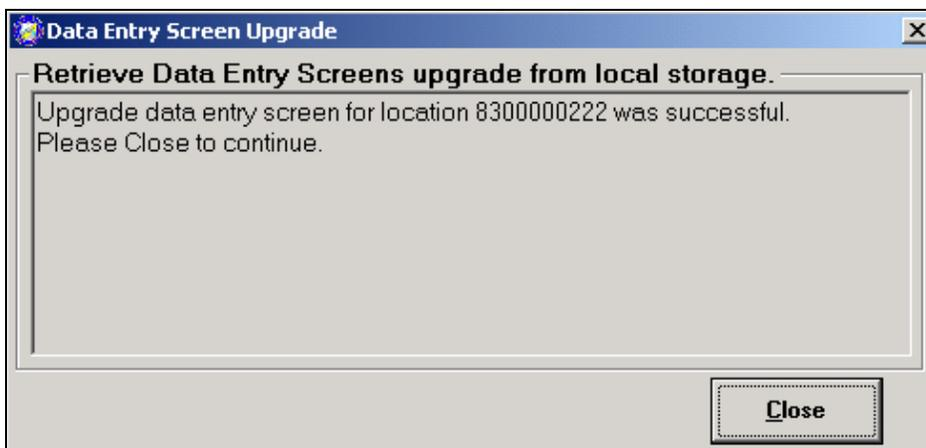

Figure 6.10.12
2. You will be prompted to click **'Close'**. The 'Retrieve Data Entry Screen From Local Storage' window opens (Figure 6.10.12)